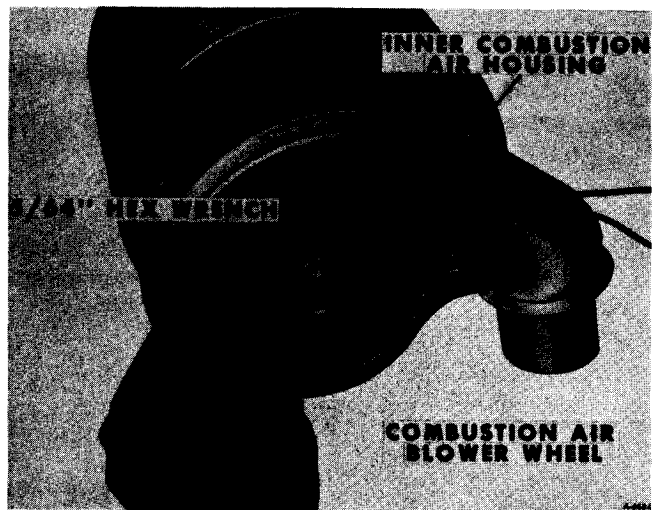

Figure 25 – Removing Combustion Air Blower Wheel
5. Using a 5/64" hex wrench, remove combustion air blower wheel (Figure 25).
5. Install combustion air blower wheel (Figure 25).